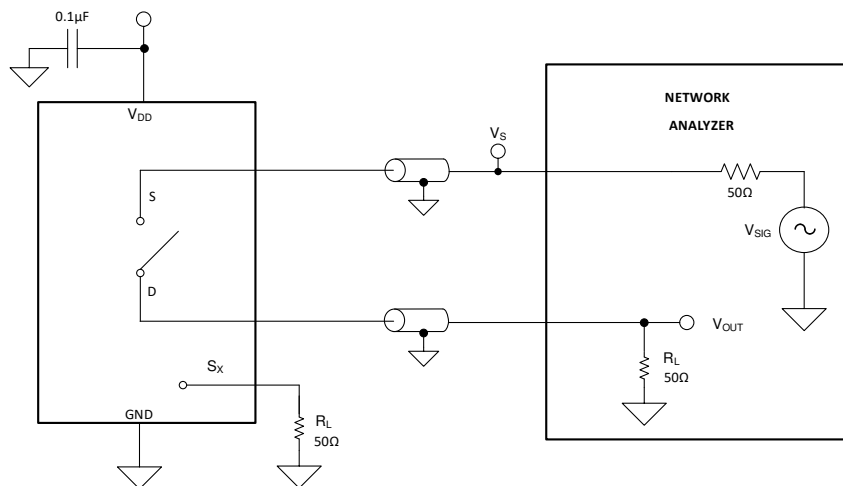

图 6-8. Off Isolation Measurement Setup
Off isolation is defined as the ratio of the signal at the drain pin (D) of the device when a signal is applied to the source pin (S_x) of an off-channel. 图 6-8 shows the setup used to measure, and the equation used to calculate off isolation.